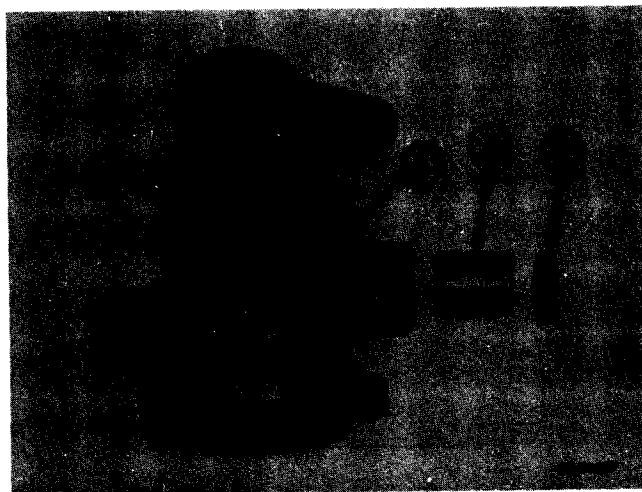

Figure 8-5
Inspect threads on lower end of worm gear. Threads must be clean and free of nicks and burrs. On units equipped with bushing (2, Fig. 8-5), check condition of bushing.
To replace Pitman shaft bushing (2, Fig. 8-5) press bushing from housing (1) using improvised tool.